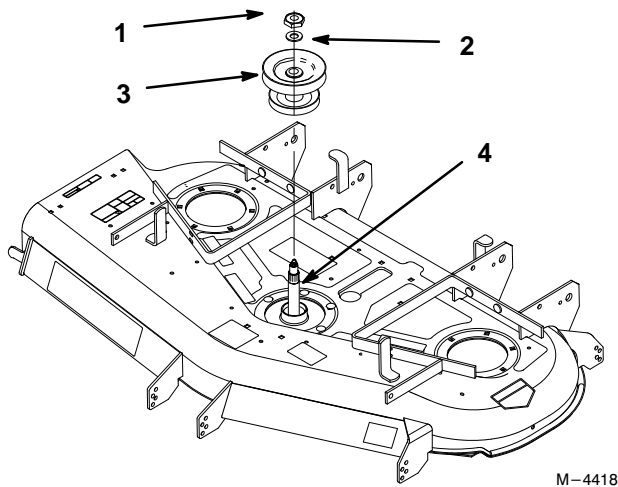

Figure 1
1. Remove nut and washer on top of center spindle (Fig. 1). Save the nut and washer.
2. Remove existing pulley assembly (Fig. 1).
3. Install new pulley assembly. Install it so the large pulley is on top (Fig. 1).
4. Reinstall washer and nut. Torque nut to 115 ft-lbs (156 N•m) (Fig. 1).